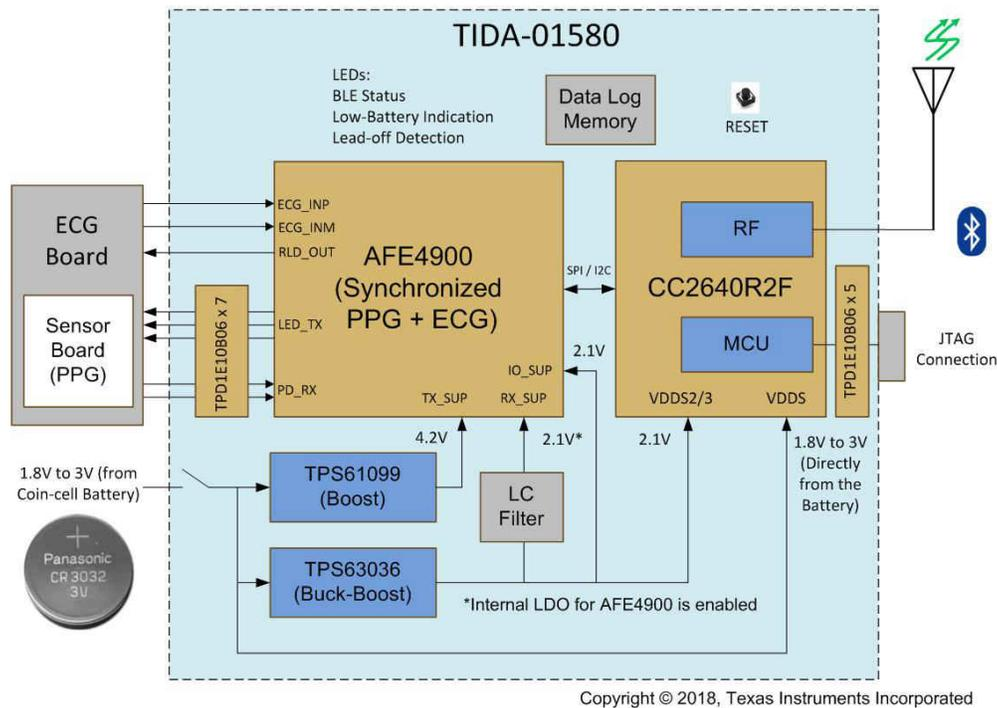

Figure 1. Patient Monitor Reference Design Block Diagram
TI's extensive portfolio supports emerging market trends. For example, the Wearable, Wireless, Multi-Parameter Patient Monitor Reference Design uses the AFE4900 single-chip bio-sensing front end for synchronized ECG and PPG measurements (see Figure 1). It integrates flexible LED drivers with complete receiver chains for the photo diodes. It communicates with the CC2640R2F SimpleLink Bluetooth® low energy Wireless MCU, which has an integrated Arm® Cortex-M3 and 2.4GHz radio-frequency (RF) transceiver, over Serial Peripheral Interface (SPI) (or I2C). The design supports wired data capture using a Joint Test Action Group (JTAG) connection, as well as wireless data capture, by sending it over Bluetooth® 5.